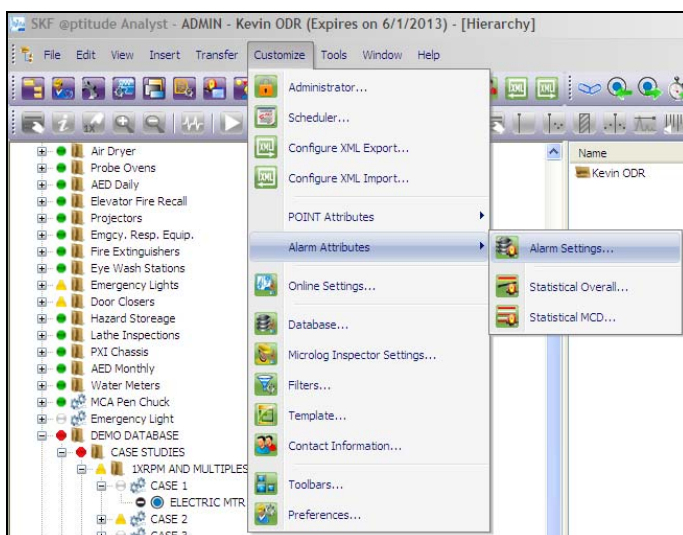

Figure 1. Customize > Alarm Attributes > Alarm Settings...
1. In @ptitude Analyst, go to **Customize > Alarm Attributes > Alarm Settings...** [Figure 1]